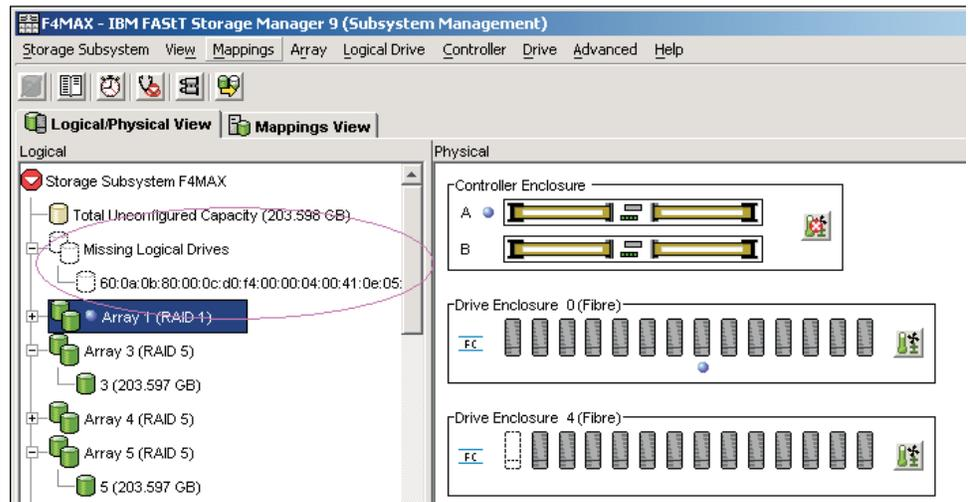

Figure 20. Subsystem Management Logical/Physical View of Missing Logical Drives
7. Wait for the storage manager to mark the arrays/logical drives as missing in the Subsystem Management window. See Figure 20. Do not proceed to step 8 until all of the defined logical drives in the array(s) whose drives are removed from the DS4000 enclosures display as missing.